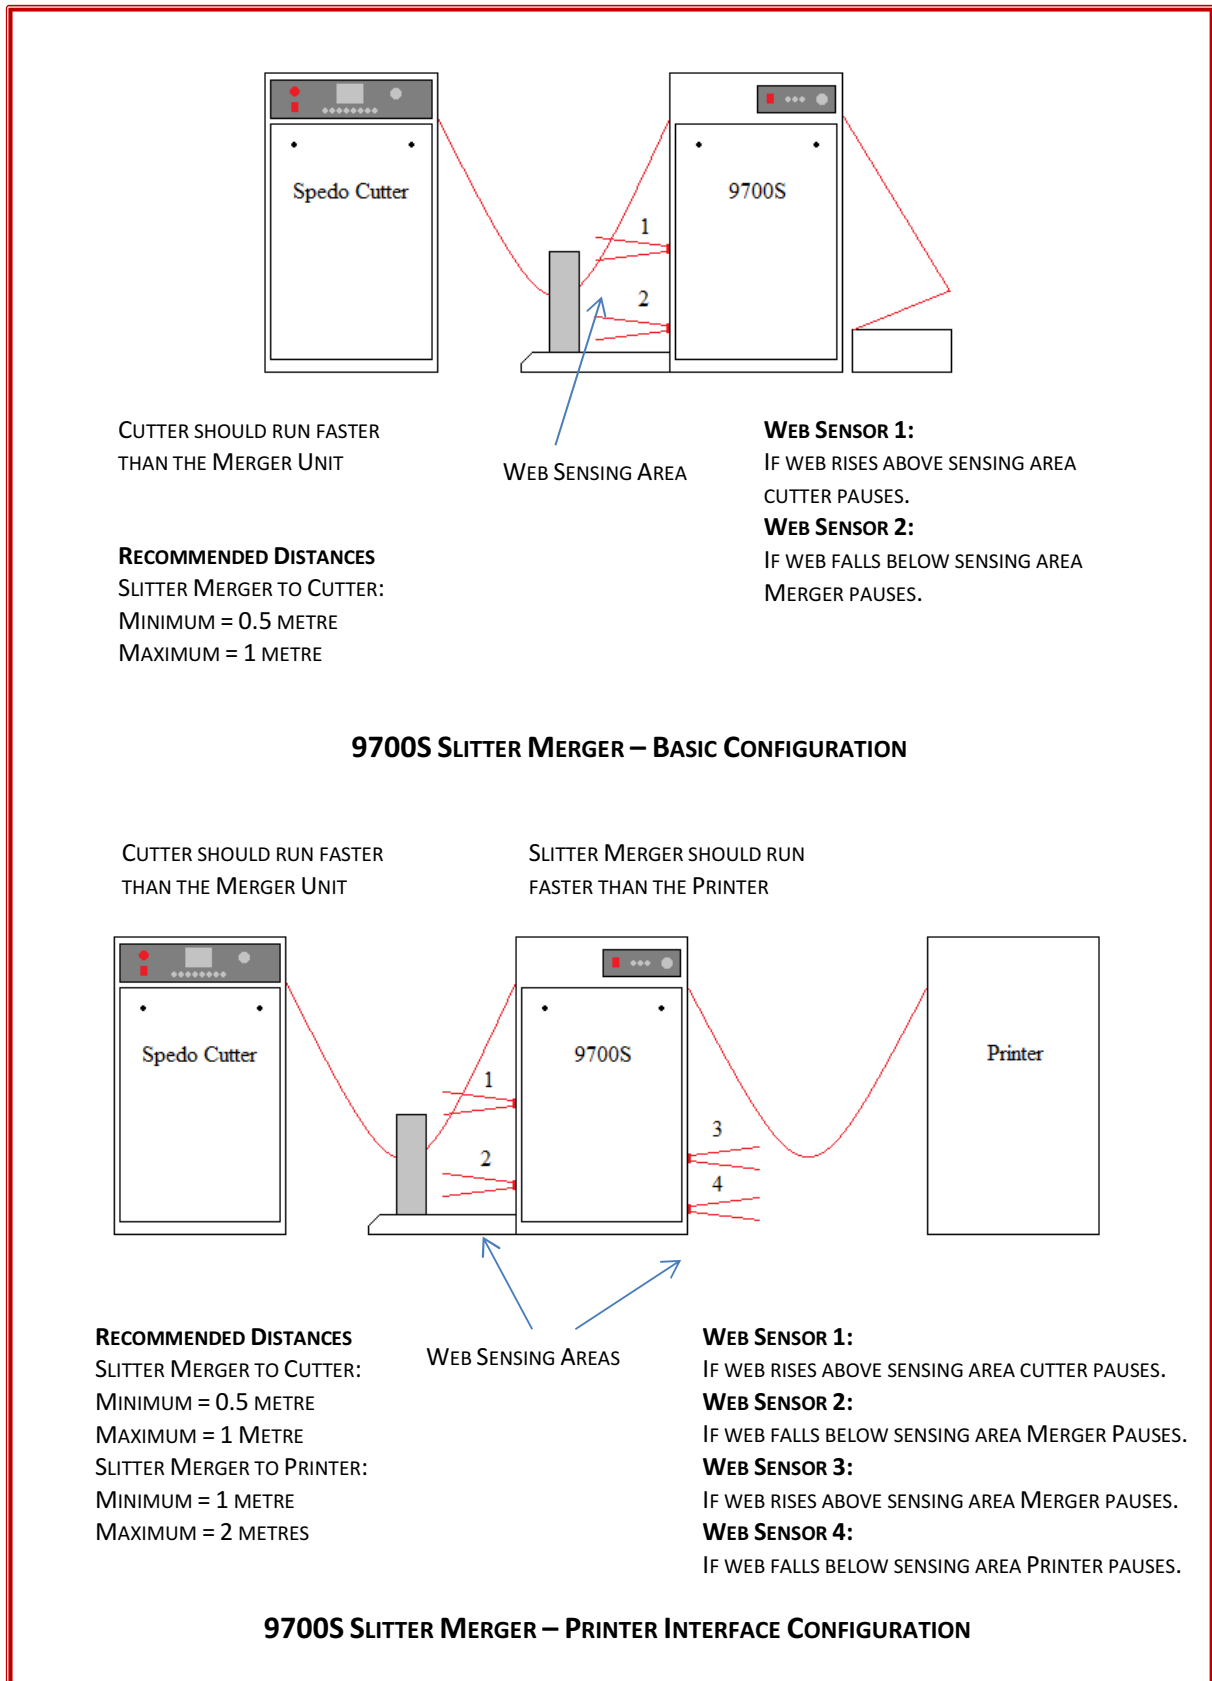

Fig 1.2 9700S System Configurations.
The web control unit is configured into a system as shown in Figs 1.2 and 1.3.
- Configure the system as shown in Fig 1.2 or 1.3 depending on model.